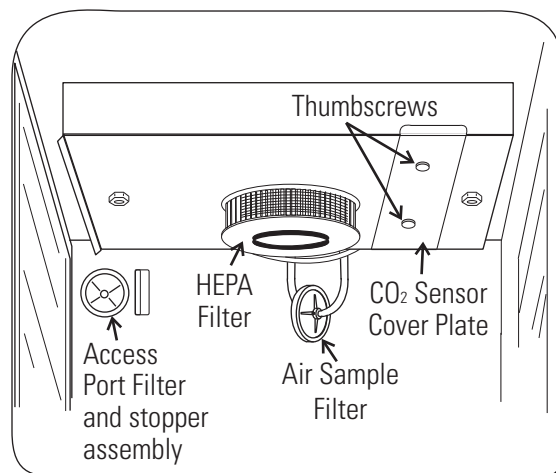

Figure 1-17. Filter and Plate
2. Locate the stopper with filter in the hardware bag. Lift the metal port cover and install the assembly in the opening inside the chamber. See Figure 1-17.
3. Also in the hardware bag is the CO₂ sensor cover plate. Install, using the thumbscrews. Refer to Figure 1-17 for the location.
3. Install the filter as shown in Figure 1-17. Refer to Section 5 for HEPA filter maintenance.